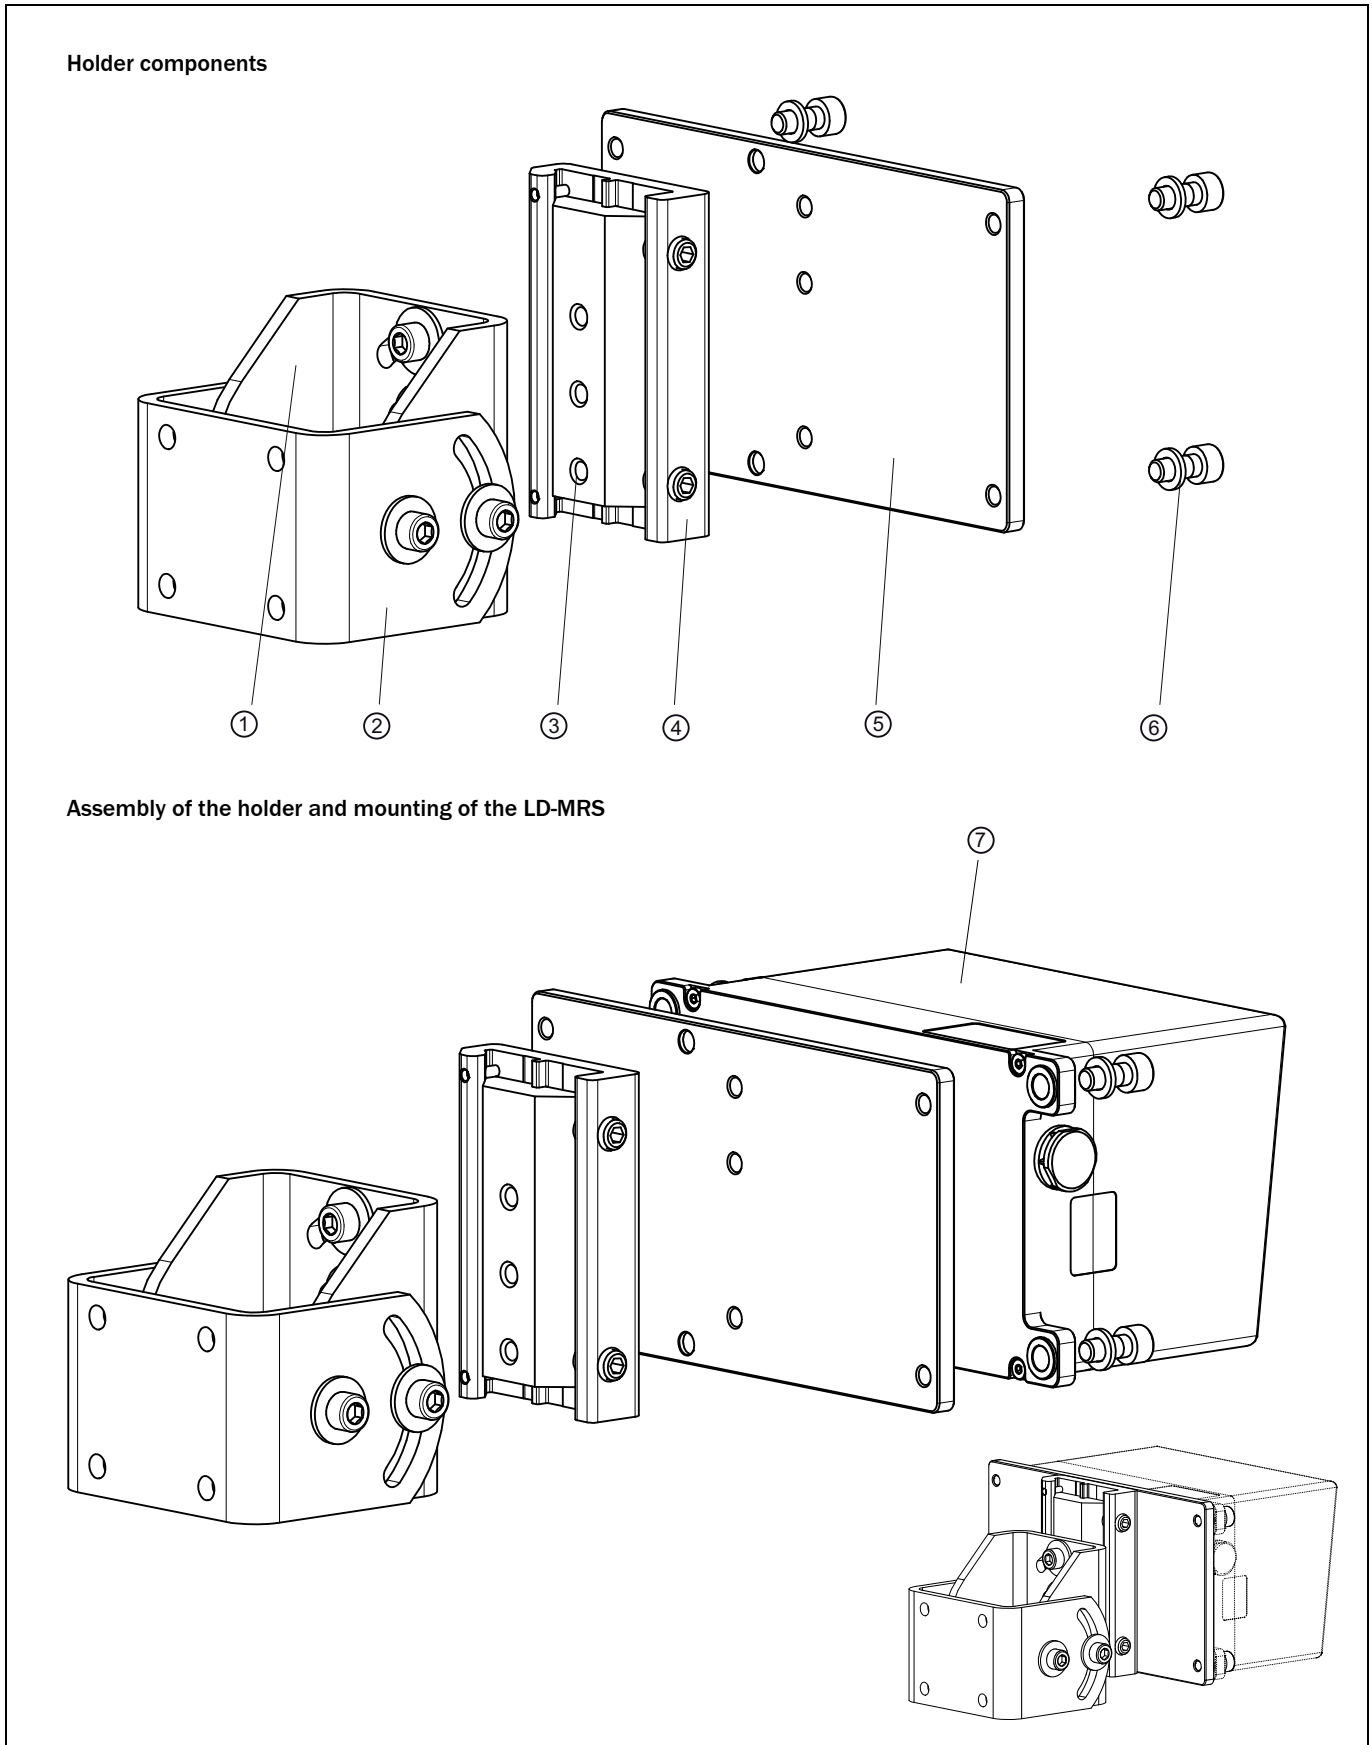

Fig. 4-2: Mount the LD-MRS on holder Part No. 1047429
- 1 M6 x 20 screws, self locking (4)
- 4 M4 x 10 screws, self locking (4)
**Recommendation** Only mount the LD-MRS on the weather resistant cover Part No. 2058033 when the holder Part No. 1047429, see Fig. 4-2, is used.